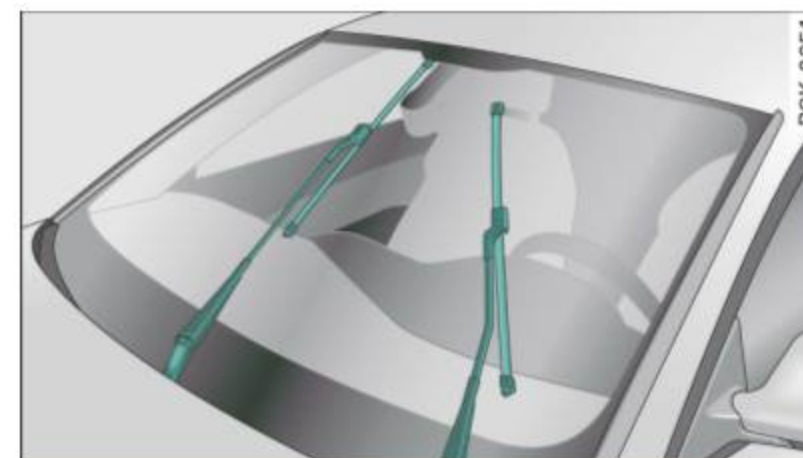

Fig. 62 Service position
- **On** - changing the windshield wiper blades can only be done if you bring the wiper arms to the service position ⇒ fig. 62. You will also avoid paint damage to the hood when working on the wipers in this position.